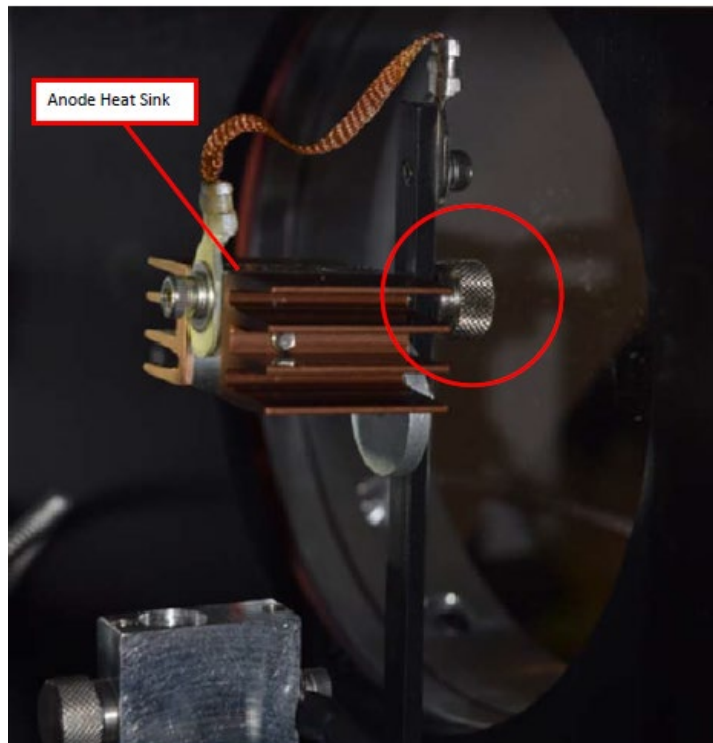

Figure 10. Anode heatsink at the top of the UV source.
3. Wearing clean nitrile gloves, loosen the retaining thumbscrew on the Anode Heatsink at the top of the UV Source (see Figure 10).